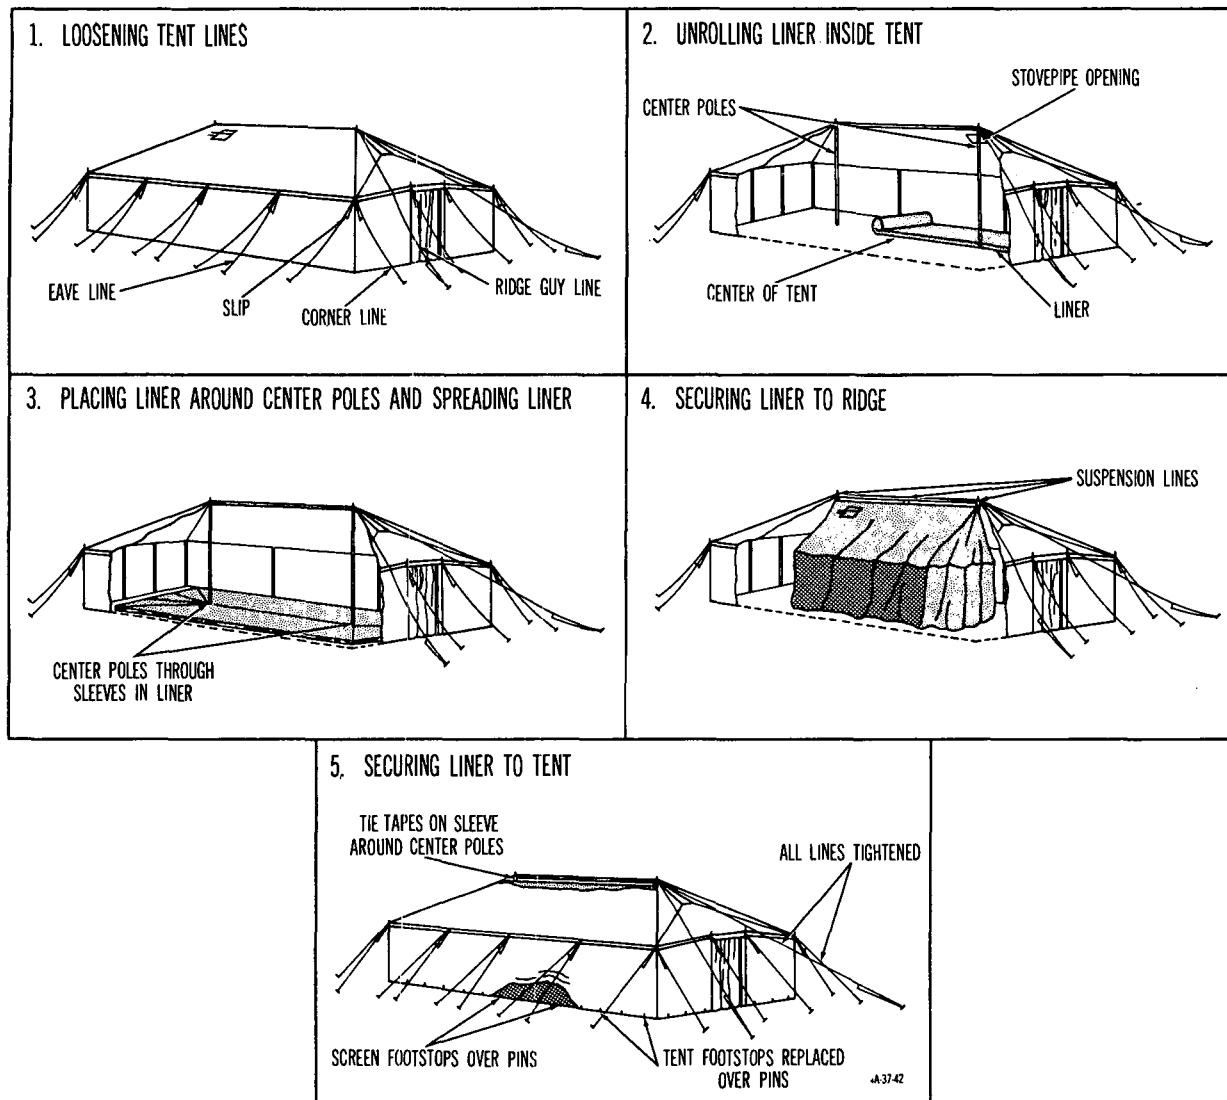

Figure 28. Steps in attaching liner to tent, general purpose, medium.
- (5) Attaching liner to tent (fig. 28).
- (a) Loosen slightly all guy lines by adjusting tent slips (1).
- (b) Unfold tent liner inside tent on one side of center poles so that stovepipe openings of tent liner are on same side of tent as stovepipe openings in tent (2).
- (c) Lift each center upright pole, pull liner under pole, and slip liner pole sleeve over pole (3).
- (d) Tie liner ridge suspension lines to tent ridge plates and to tent ridge pole (4).
- (g) Wrap liner pole sleeves around center upright poles and tie with tie tapes (5, fig. 28).
- (h) Secure footstops in liner sidewall screen to tent footstop pins (5, fig. 28).